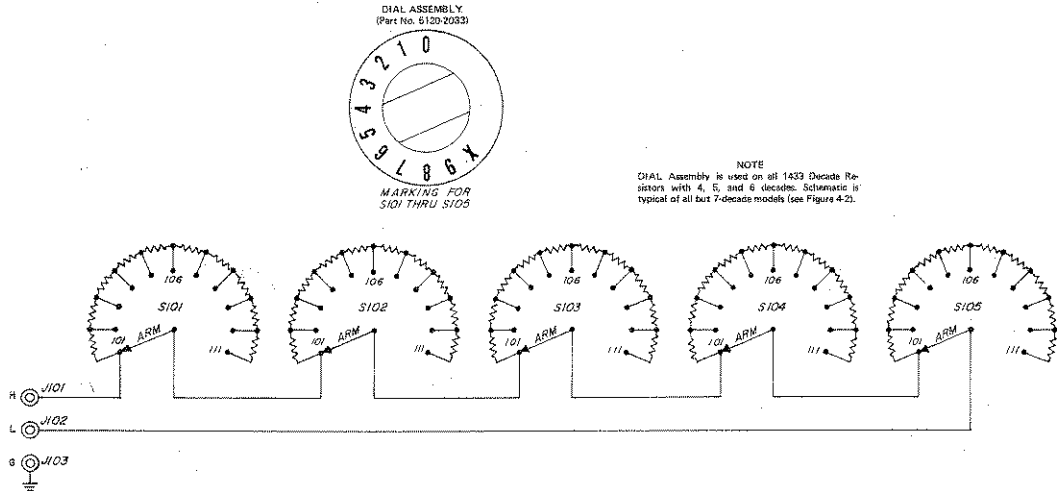

Figure 4-1. Schematic diagram for Type 1433-T, -N, -M, -P, and -Y Decade Resistors.
Refer to the parts list and Figures 4-1 and 4-2 for 510 Decade Resistance Units and other parts that may require replacement.
* See Figures 4-1 and 4-2
(Refer to Figures 4-1 and 4-2)